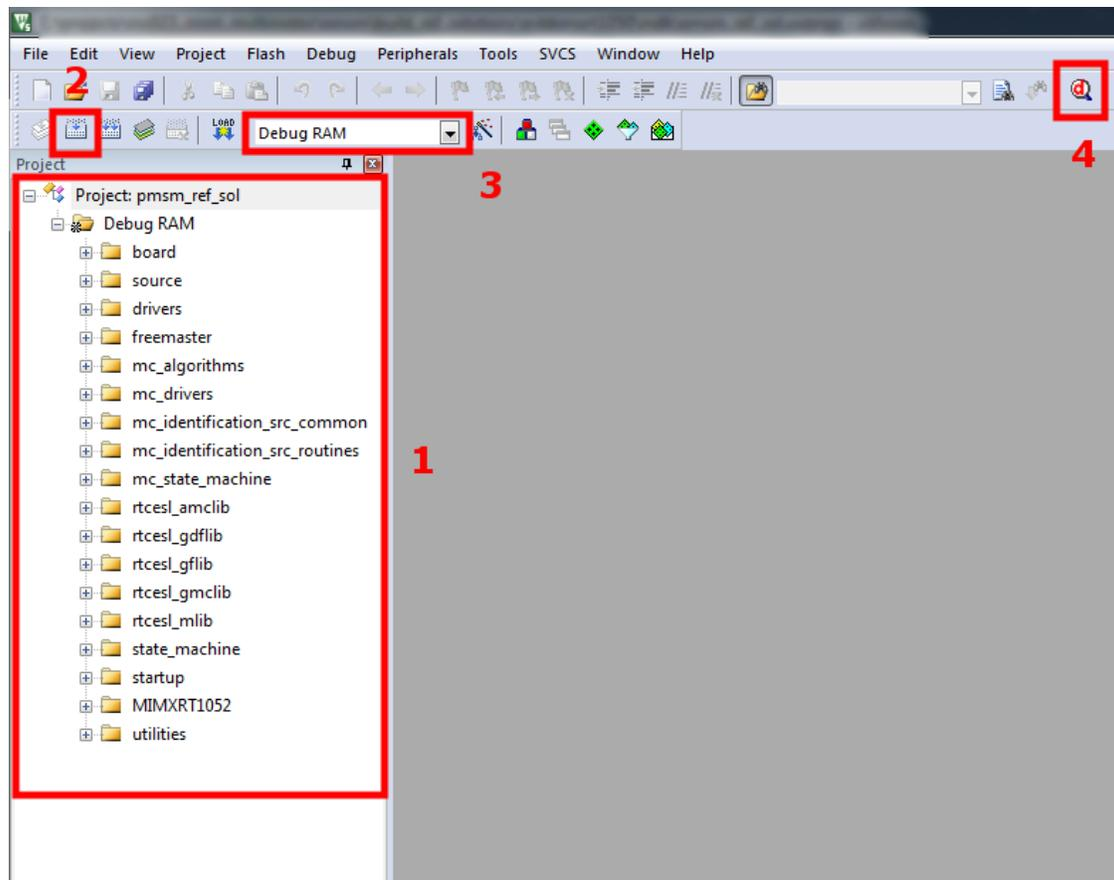

Figure 16. Keil workspace
- Point 1 in Figure 16 shows the imported project's file structure.
1. Select the “Debug RAM” build configuration (Point 3 in Figure 16).
3. Press the “Build” button (Point 2 in Figure 16).
4. After a successful build, the application is ready for download to the RAM. To perform this action, press CTRL+F5 or click the “Debug” button (Point 4 in Figure 16).
- To stop debugging, press the “Debug” button (Point 4 in Figure 16).
1. Select the “Release FLASH” build configuration (Point 3 in Figure 16).
5. After the compiled project is flashed, press CTRL+F5 or click the “Debug” button (Point 4 in Figure 16).